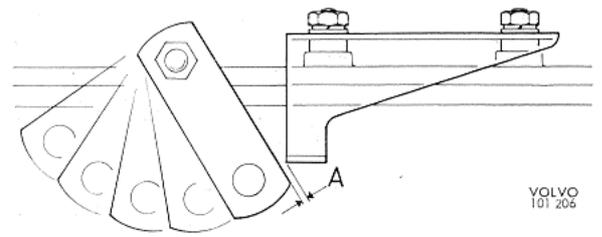

Fig. 78. Stop for lever
28. On cars which have six control positions, the stop bracket is fitted as shown in Fig. 78. Adjustment is carried out as follows:
- B. Push the stop bracket forwards so that it comes $1/8$ — $5/32$ " (3—4 mm) from the lever see "A" Fig. 78. Tighten the bracket in this position.